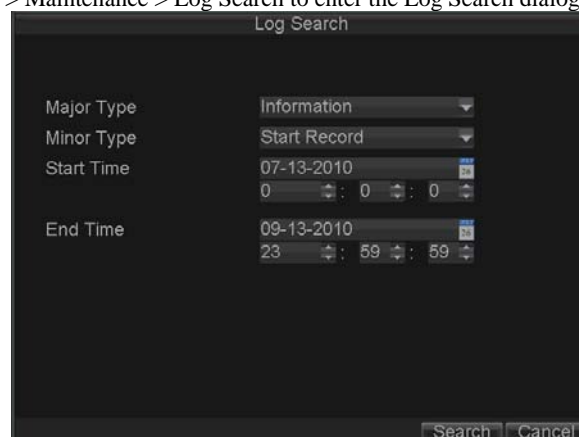

Figure 6. Log Search Menu
1. Click Menu > Maintenance > Log Search to enter the Log Search dialog box, shown in Figure 6.